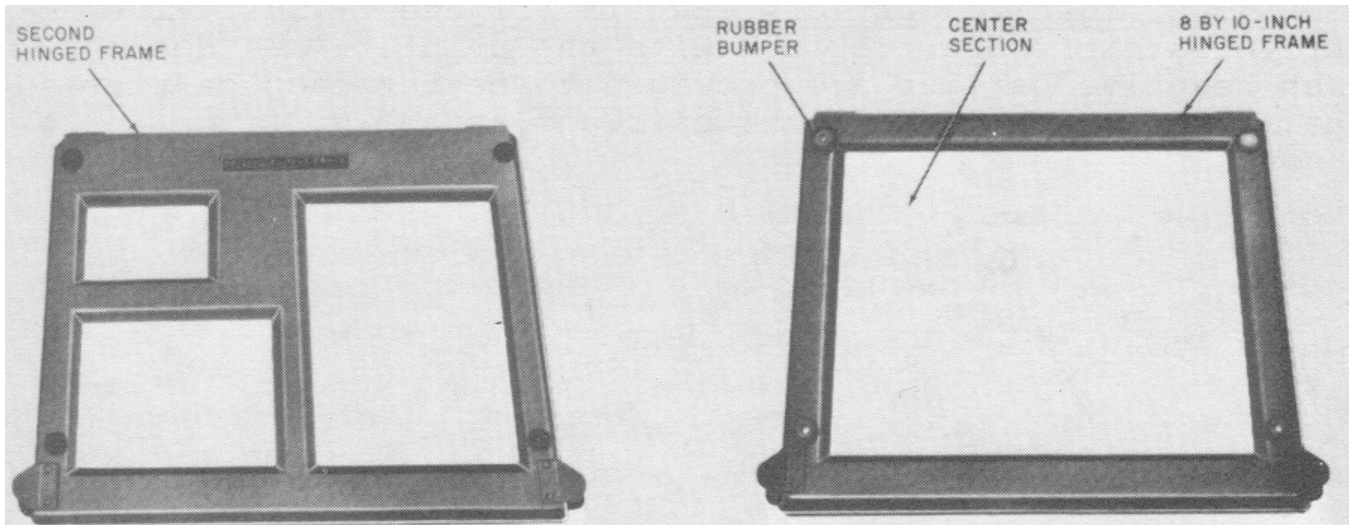

FIGURE 2-9. Easel, Projection Printing FN-9(1).
h. Easel, Projection Printing FN-9(1) (figure 2-9). The easel accommodates paper of the following sizes: 2 1/2 by 3 1/2 inches, 4 by 5 inches, 5 by 7 inches, and 8 by 10 inches. The holder consists of two hinged frames that have fixed openings and a solid white enamel finished center section.
2-21 Using Easel, Projection Printing FN-9(1) (figure 2-9)